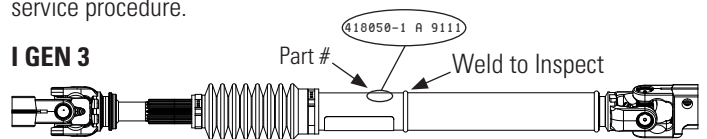

Figure 1
First digit indicates the year and the last three digits indicate the day of that year. **Figure 1**
- 2a. **Part Passes** if the weld bead completely fills the narrow gauge window **Figure 4**. Mark the parts that pass inspection with yellow or white paint mark adjacent to the part number stamp. **Figure 1**